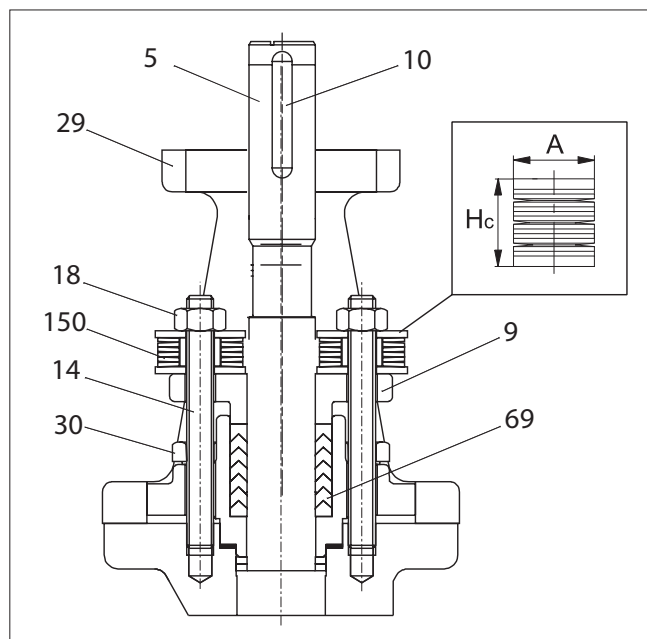

Fig. 16 Spring-loaded packing
- Unfasten the screws (30) and detach the bracket (29).
- Unfasten the nuts (18), remove the disc springs (150) and lift the gland follower (9) from the stem. The studs (14) need not be detached.
- Remove the packing rings (69) from around the stem using a pointed instrument or a detaching tool. Do not damage the surfaces of the stem and the packing ring counterbore.
- Place the new packing rings (69) over the stem. Do not damage the sealing lips of the V-rings in the stem splines. Use the gland follower (9) as a tool for pushing the packing rings all the way in.
- Deform the packing rings first by tightening the gland nuts (18) without disc springs to the torque Tt, see the value from Table 2.
- Remove the gland nuts and place the disc spring sets (150) on the gland studs. Tighten the nuts (18) so that the disc springs are compressed to the height Hc, see Table 2. Lock the nuts with locking compound e.g. Loctite 221. See Fig. 16
- Put the bracket (29) back, lubricate the screws (30) and tighten them. See Table 1.
- Insert the key (10) in the drive shaft (5) keyway.